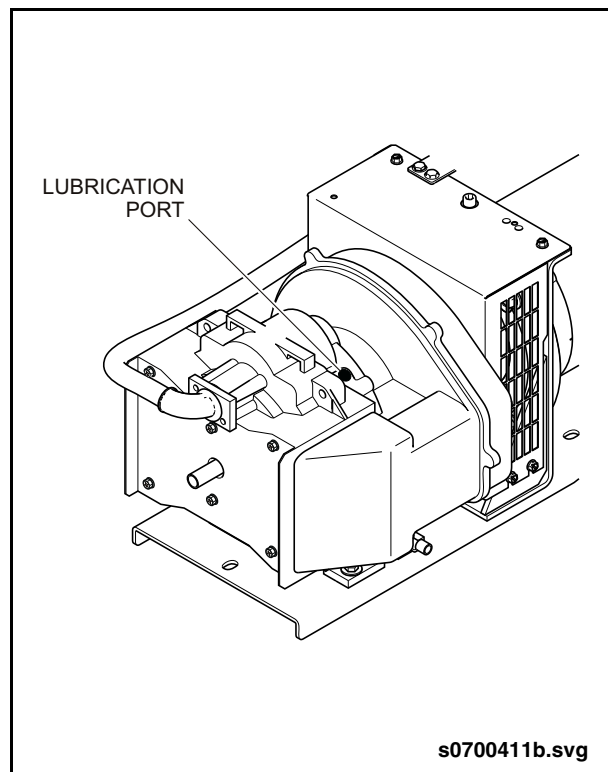

Fig. 1: Orbital Scroll Bearing Lubrication
1. Wipe off around dust cap. Remove plastic dust cap for orbital scroll bearing grease fitting. See “Fig. 1: Orbital Scroll Bearing Lubrication” on page 3.